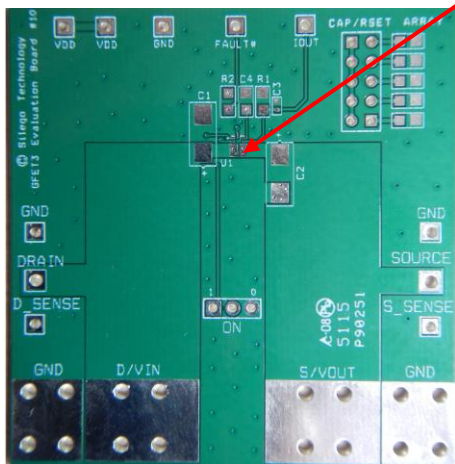

Figure 3. SLG59M1709V Evaluation Test Board
2.2. The VIN and VOUT pins carry significant current. Please note how the VIN and VOUT pads are placed directly on the power planes in Figure 3, which minimizes the RDS(ON) associated with long, narrow traces. The VIN and VOUT pins dissipate most of the heat generated during high-load current condition. The layout shown in Figure 3 is illustrating a proper solution for heat to transfer as efficiently as possible out of the device.